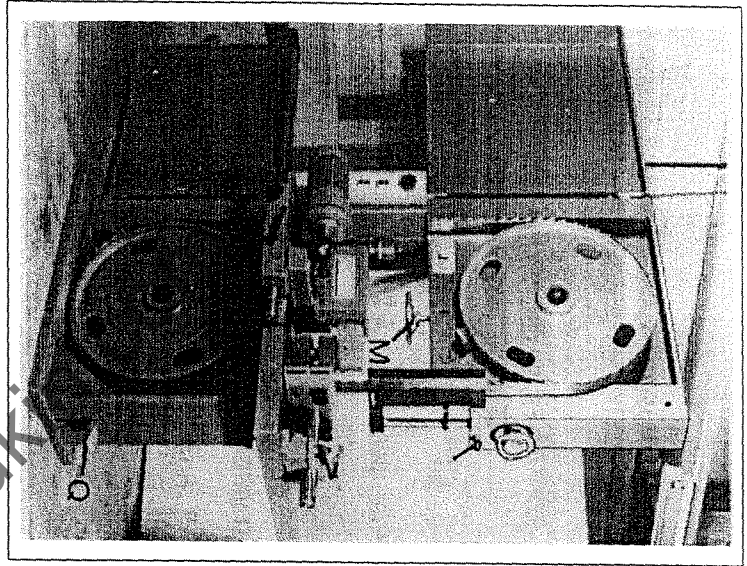
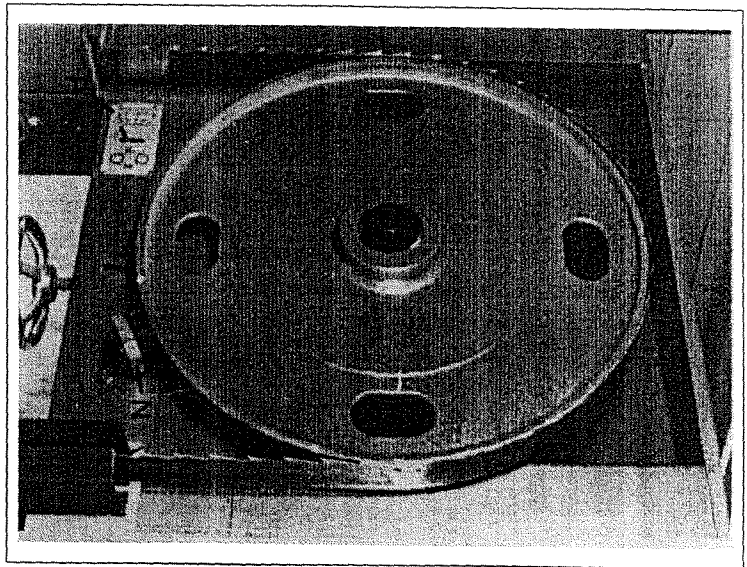

Fig 13
Fig 14
2. Adjust top wheel with handwheel 'M' (fig 13) to allow saw to be positioned on top and bottom wheels and slot saw into guides (see FIGS 13 to 16).
3. Proceed to tension saw via saw tension handwheel 'M' (FIG 13) until pointer on scale reads PBR (see 'P' FIG 14).
5. Adjust top wheel brush 'N;' (fig 14) onto tyre of top wheel.
A footbrake 'Q' is situated in the base of the machine as shown in Fig 13.